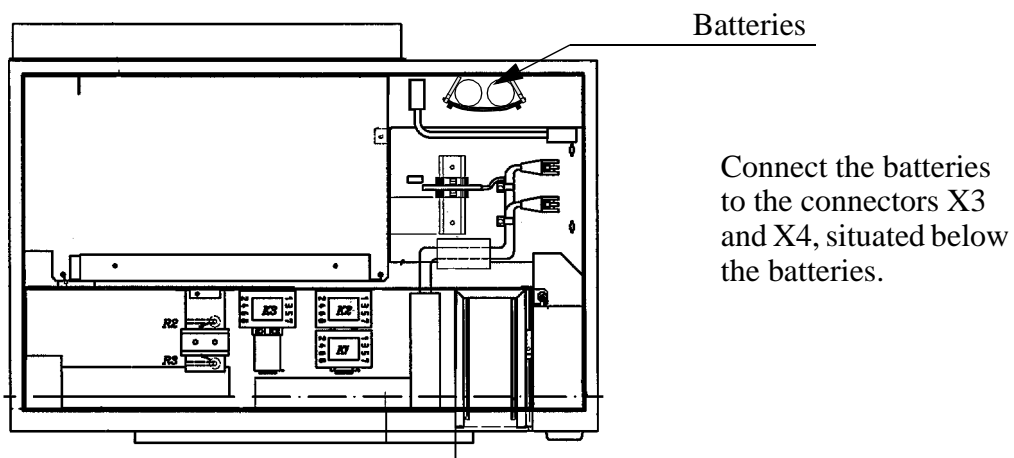

Figure 23 Location of batteries, view from above.
- Connect the batteries for memory backup (see Figure 23).